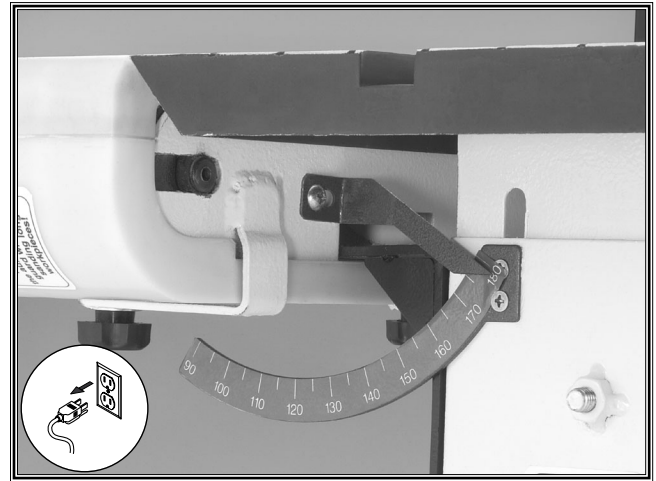

Figure 20. Table at 180°.
2. Loosen the belt tilting lock knob shown in and rotate the sanding belt to the 180° mark on the scale (**Figure 20**).